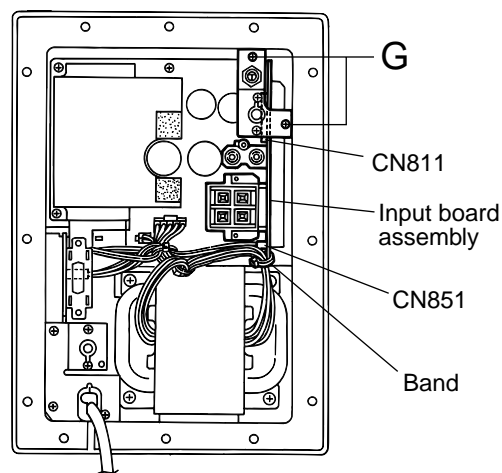

Fig.6
■ Removing the Input board assembly (See Fig.6)